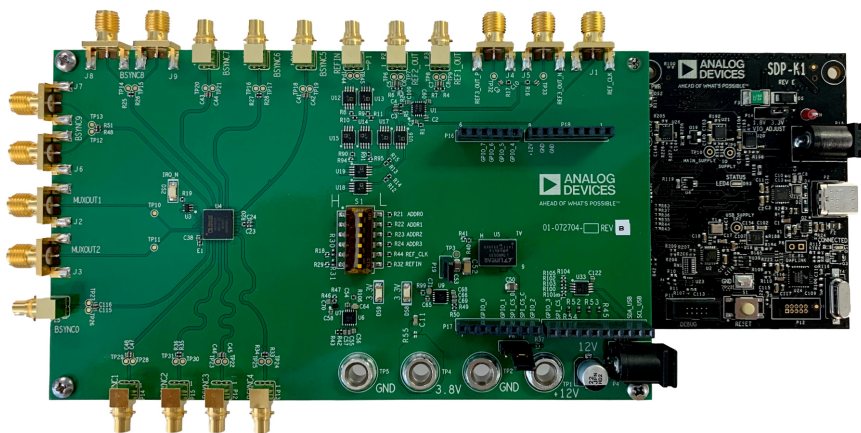

Figure 1. EV-ADF4030SD1Z Plugged into SDP K1 Controller Board
A photograph of the evaluation board with the SDP-K1 controller board is shown in Figure 1. The evaluation board contains the ADF4030 10-channel precision synchronizer, the power supply connectors, and the Arduino connector used to connect to the SDP K1 board. This combination allows software programming of the evaluation board using ACE software.
The EV-ADF4030SD1Z evaluation board must be connected to the SDP K1 controller board through the Arduino connectors P5, P17, P18, and P16. The SDP K1 board is connected underneath the EV-ADF4030SD1Z, as in Figure 1.
1. Connect the EV-ADF4030SD1Z to the SDP K1 board as shown in Figure 1.